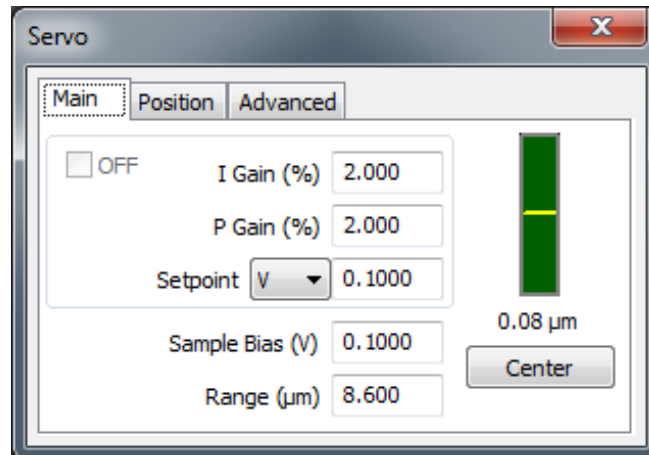

Figure 99 Servo window settings for STM imaging
- 9 In the Servo window enter the Bias Voltage (Figure 99). Typical values are **50-200 millivolts** (0.05-0.200 V). A positive bias indicates current flow *from* the tip *to* the sample, and vice versa for negative bias.